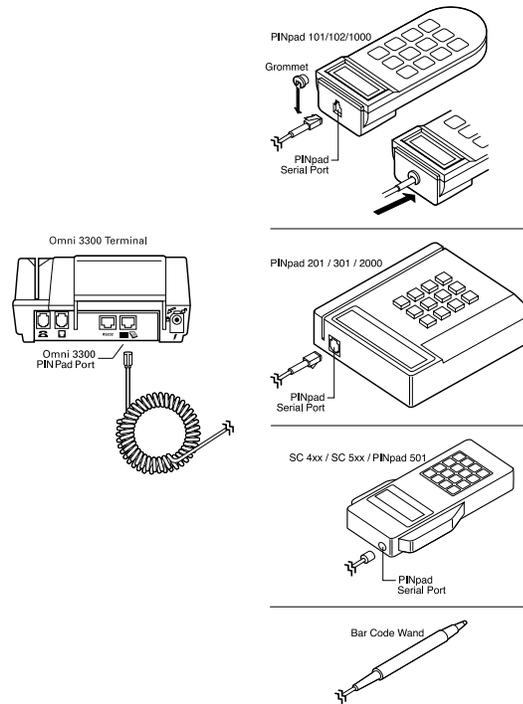

Figure 10 Optional "PIN Pad" port devices
Refer to Figure 10, page 19:
2. If installing a PINpad 101, PINpad 201, or PINpad 1000, position and insert the grommet to secure the cable connection (Figure 10, page 19).